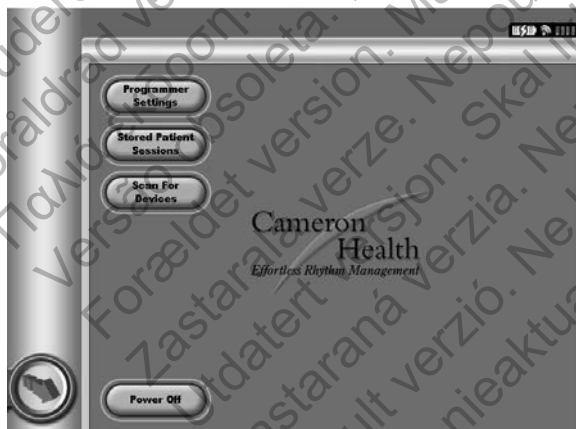

Figure 16: The Scan for Devices button is on the Startup screen
1. Select the Scan For Devices button on the Startup Screen (Figure 16). The Device List screen appears after the Scan Progress Bar displayed during the scanning process. Select the Cancel button at any time to end the scanning process.